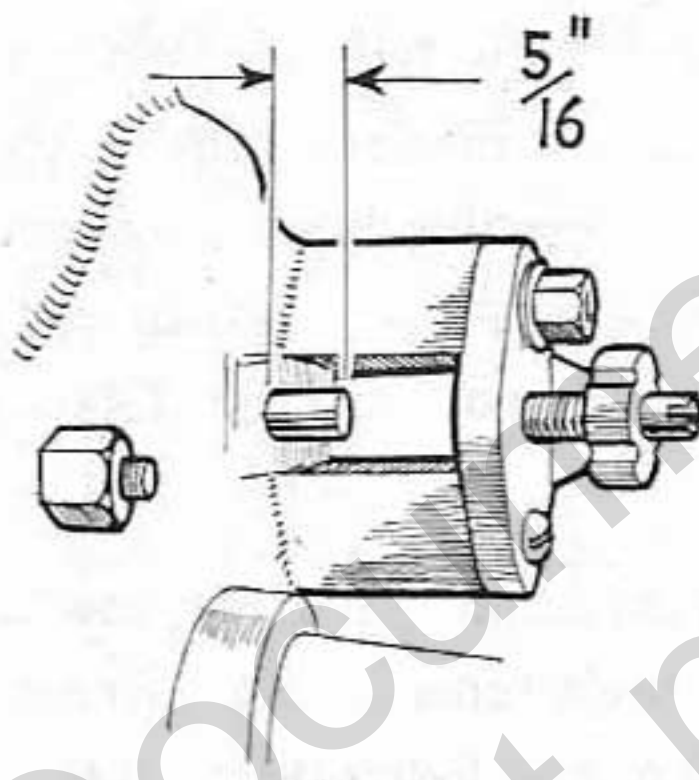

Fig. 4
3. Adjustment of push rod (See Fig. 4)